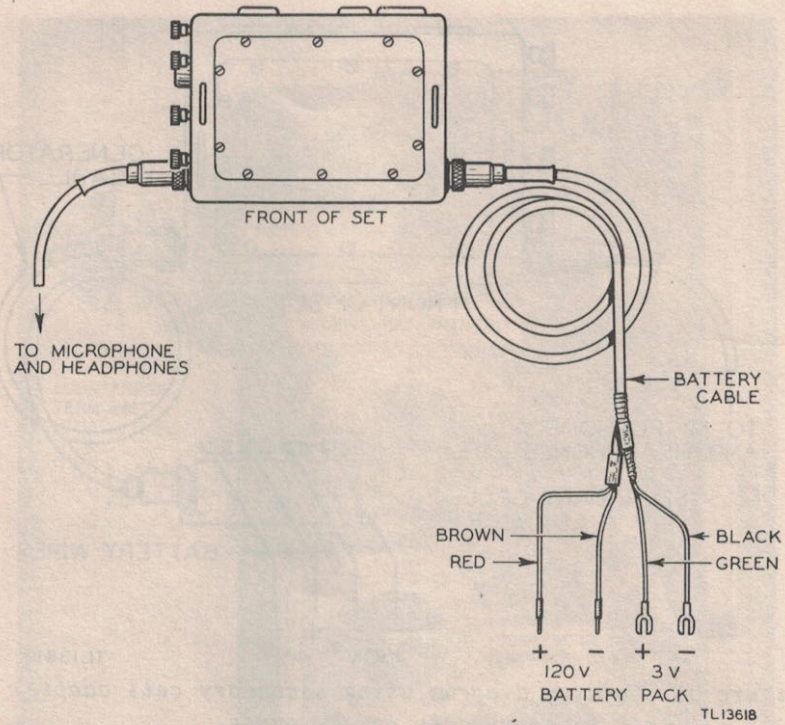

Figure 16. Wiring diagram using battery pack for power supply.
(2) To use the battery pack as the source of power for the set, refer to figure 16, and use the battery cable for connecting the set to the battery pack.
(3) When the set is used for other than portable operation, the [] (secondary cell adapter) is normally installed in conjunction with a heavy-duty power source. A view of the [] (secondary cell adapter) is shown in